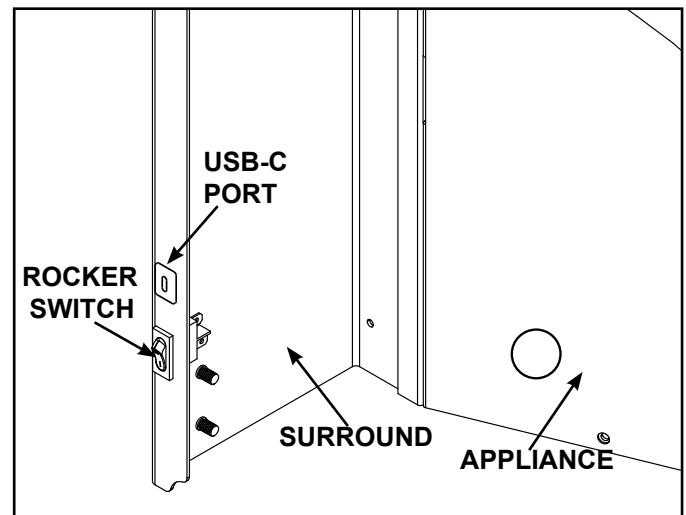

Figure 1 Rocker Switch Detail
3. Run both low voltage wires behind the surround. Connect the low voltage wires to the rocker switch and USB-C plug.. See Figure 1.